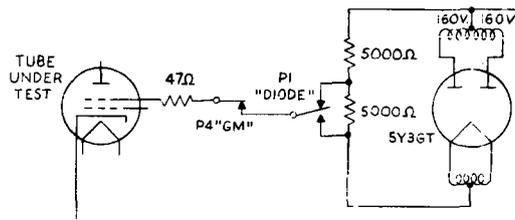

Fig. 7 - Reduced Screen Voltage Test Circuit
2.30 An added function is incorporated, as shown in Fig. 7, with the operation of the DIODE